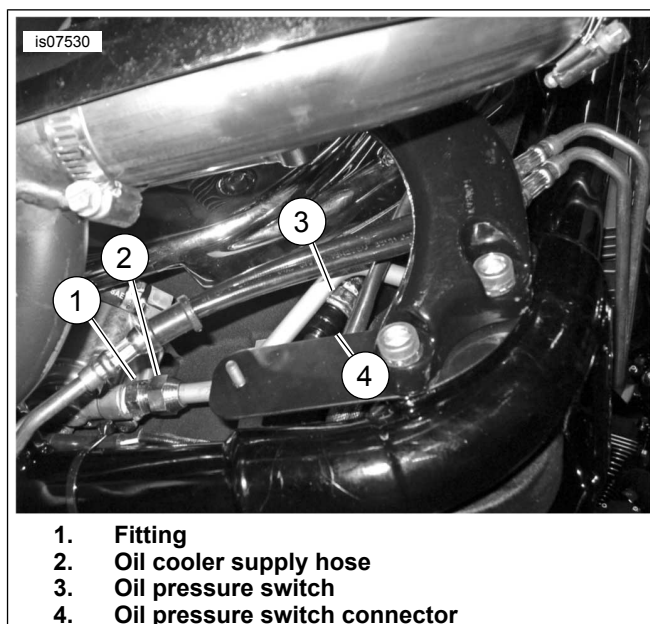
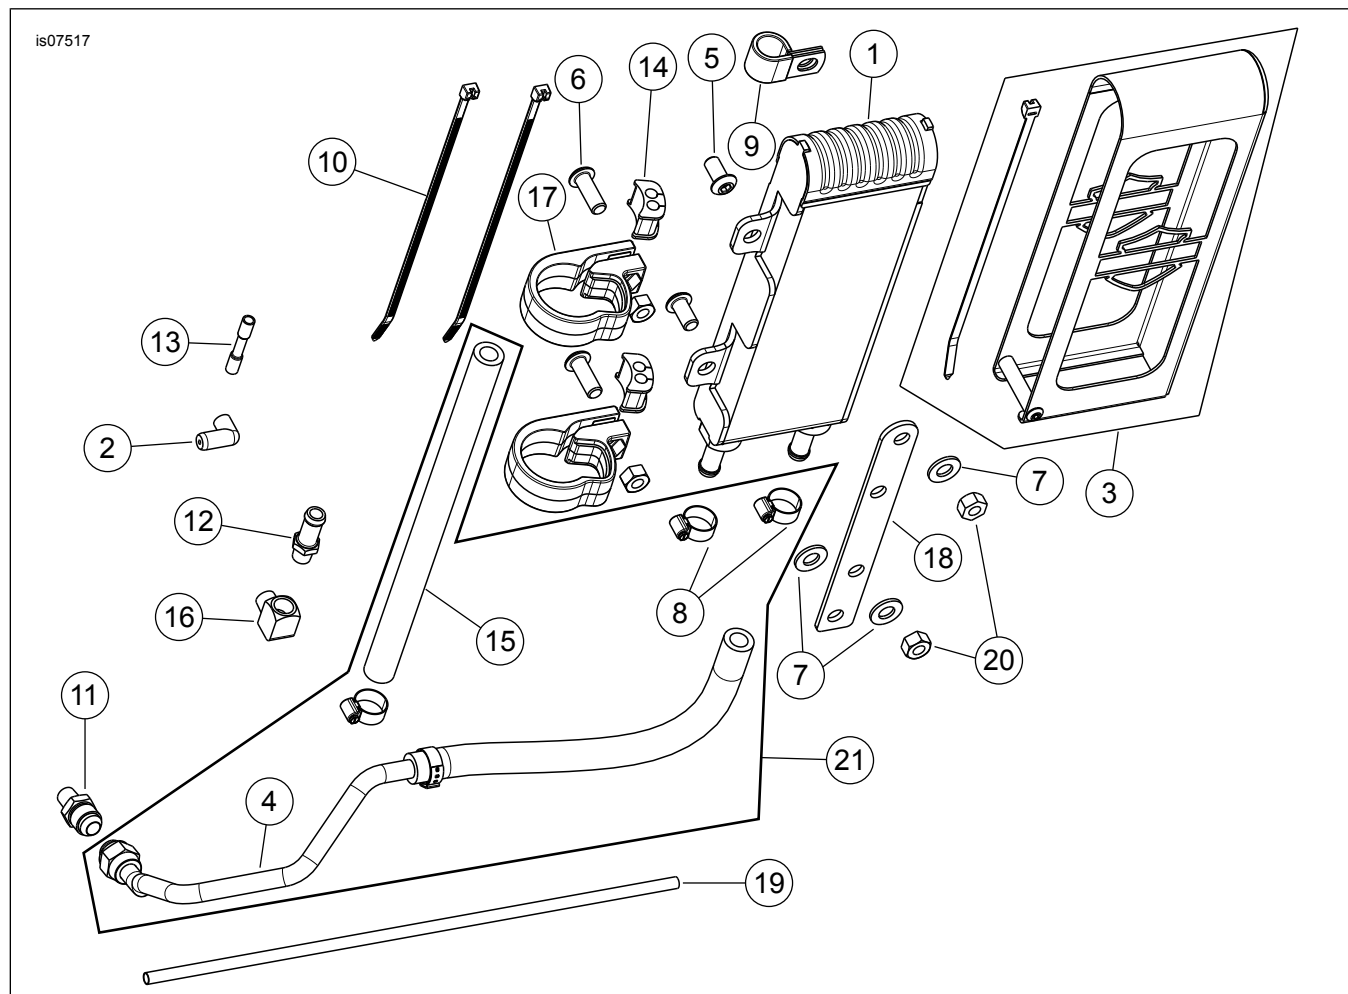

Figure 2. Oil Supply Line and Oil Pressure Switch
Figure 6. Service Parts: XL Premium Oil Cooler Kit
See Figure 6 and Table 1.
- b. See Figure 2. Install oil pressure switch (3) to **crankcase** where the feed hose was connected.
2. Install jumper wire assembly (item 2, Figure 6) to oil pressure switch lead.
- d. Measure the amount of conduit (item 19, Figure 6) necessary to cover the wire assembly. Cut the conduit to length.
- f. See the service manual sealed splice connector installation instructions. Install the new oil pressure switch connector to the harness lead with the sealed splice connector (item 13, Figure 6).
4. See Figure 2. Apply Hylomar Gasket and Thread Sealant to fitting (item 11, Figure 6). Install fitting to oil pump. Tighten fitting to 6.2–7.4 N·m (55–65 in-lbs).
5. Loosely install oil cooler supply hose assembly (2) to oil pump fitting.
6. Apply Hylomar Gasket and Thread Sealant to fitting (item 16, Figure 6). Install fitting to original oil pressure switch mounting location. Tighten finger-tight, then turn 2-3 times more. Orient the fitting opening to be in line with the oil filter housing.
7. Apply Hylomar Gasket and Thread Sealant to fitting (item 12, Figure 6). Install fitting to the elbow fitting. Tighten finger-tight, then turn 2-3 times more. Orient the fitting to be in line with the oil filter housing.